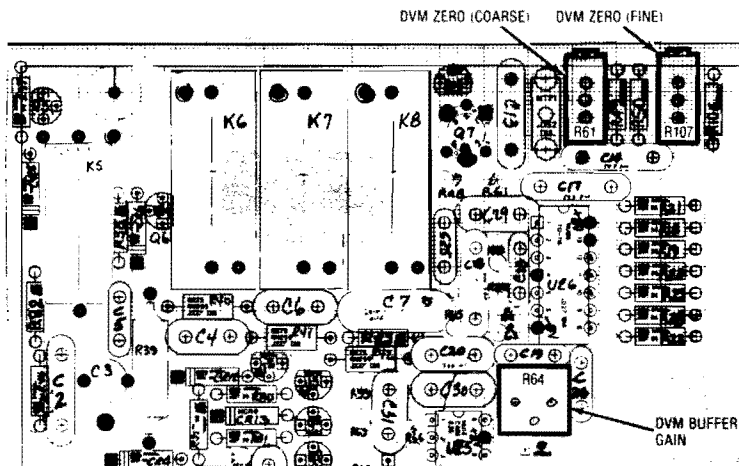

Figure 5-17. DVM Input Buffer Alignment Points
4. Adjust the Coarse and Fine DVM Zero potentiometers on the Front Panel Interface board (Figure 5-17) for a reading of  $0 \pm 0.5$  mV on the external DVM.
7. Reconnect the external DVM between pin 1 and pin 6 of J3. The external DVM should show a reading equal to one-tenth the voltage at TP 12 noted in paragraph 5-119.6 plus or minus 10 mV. If the reading falls outside this range it will be necessary to physically disconnect the front panel from the chassis in order to adjust the DVM Input Gain Potentiometer on the Front Panel Interface Card (Figure 5-17). Adjust the DVM Input gain for a reading on the external DVM equal to one-tenth the voltage noted for paragraph 5-119.6. Reconnect the front panel to the chassis.